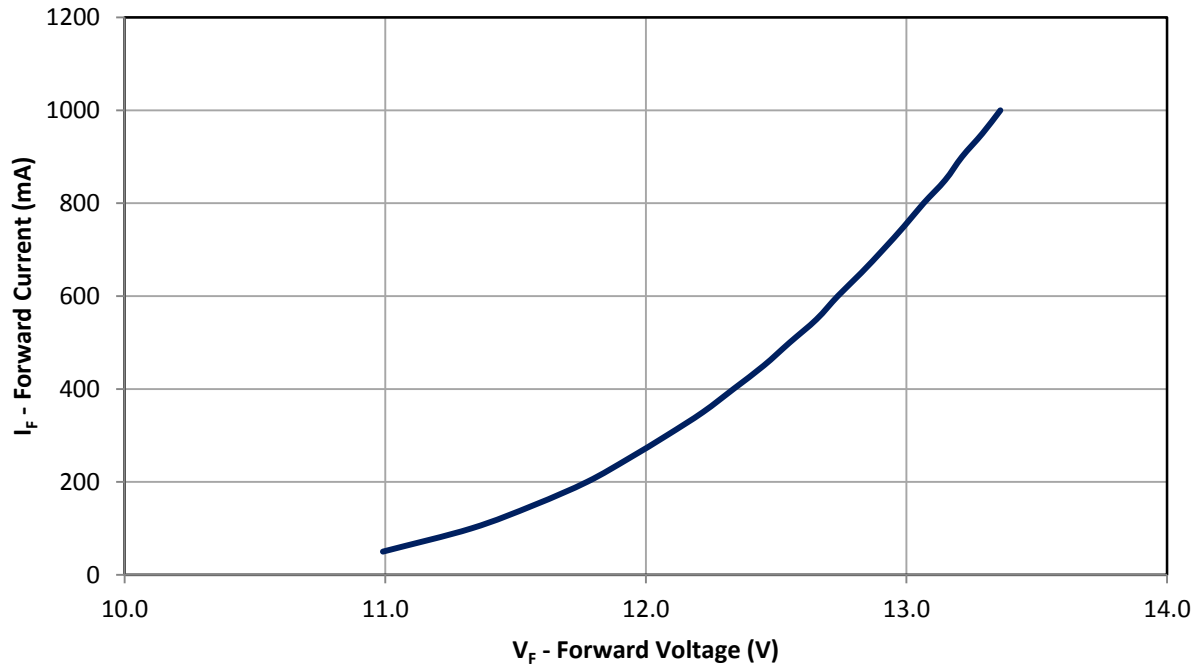

Figure 10: Typical forward current vs. forward voltage @ T_c = at 25°C.
- Maximum DC forward current (per die) is determined by the overall thermal resistance and ambient temperature. Follow the curves in Figure 10 for current derating.
Note for Figure 10: